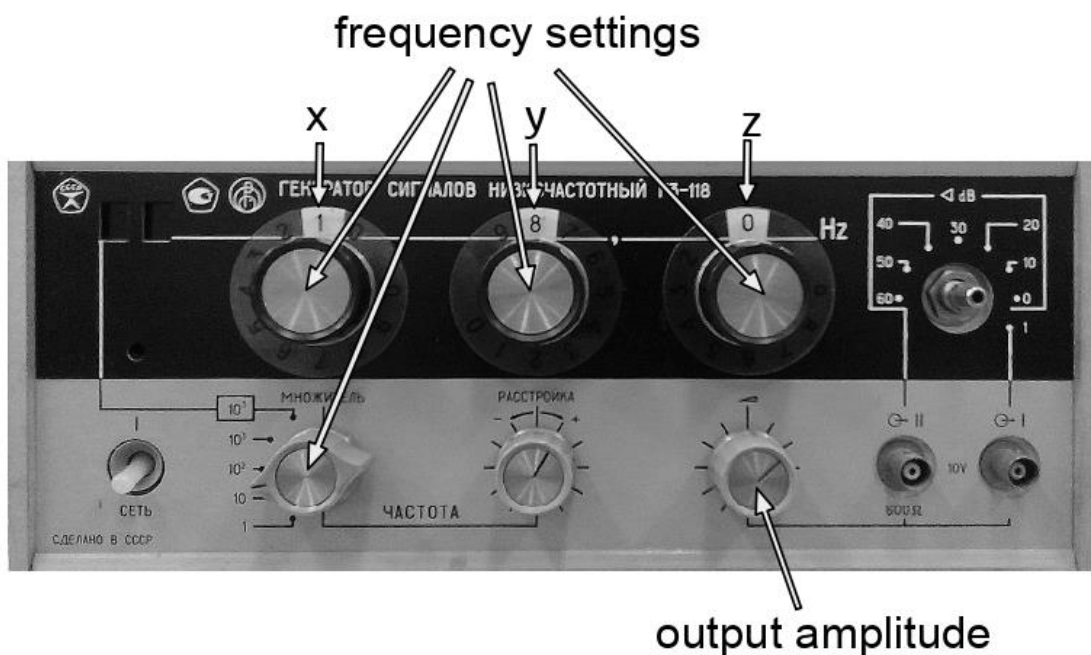
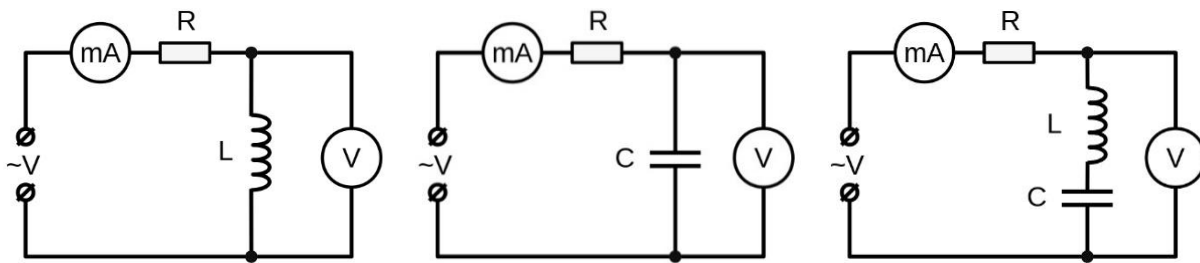

Figure 451.1. Generator
Figure 451.2. Circuits
The generator of harmonic oscillations “Г3-118” is connected to the terminal labelled “~V” in all circuits (Fig. 451.1). The generated frequency is derived as $f = (xy.z \times \text{multiplier}) \text{ Hz}$. In this figure, $f = 18.0 \times 10^2 = 1800 \text{ Hz} = 1.8 \text{ kHz}$. Set the generator output amplitude to its maximal value. The voltmeter “V” and the milliammeter “mA” should be set to the appropriate measurement mode (Fig. 451.2). The circuits can be modified by setting and removing jumpers into/from pins labelled **JP1–JP3**. A jumper (a piece of plastic-insulated conductor) closes a circuit when it is placed over the pins.
1. Assemble the electric circuit according to Fig. 451.2 (left), where L is a coil with the inductance L to be measured and a known resistance of $R_0 = 10 \Omega$, and R is a constant resistance of 220Ω .
1. Assemble the electric circuit according to Fig. 451.2 (centre) with capacitor C of unknown capacity C .
1. Assemble the electric circuit according to Fig. 451.2 (right).